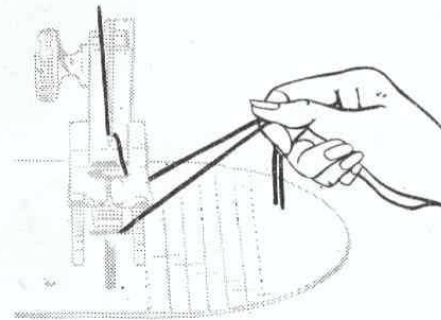

Fig. 33
3. Lay both threads back under presser foot diagonally across feed to the right or left depending upon which side of the needle the material is to be located. See **Fig. 33.** When the presser foot is lowered the threads will be firmly held between the feed and the presser foot.